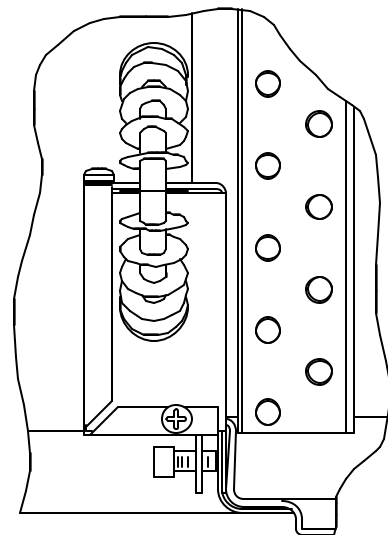

FIGURE 7
- A. Position the heater assembly in the upper unit return air opening as shown in Figure 6. The heater bracket must be installed over the metal basepan extrusion and positioned between the basepan and the plastic drain pan (See Figure 7). Tighten set screw to secure the assembly so as to prevent movement.